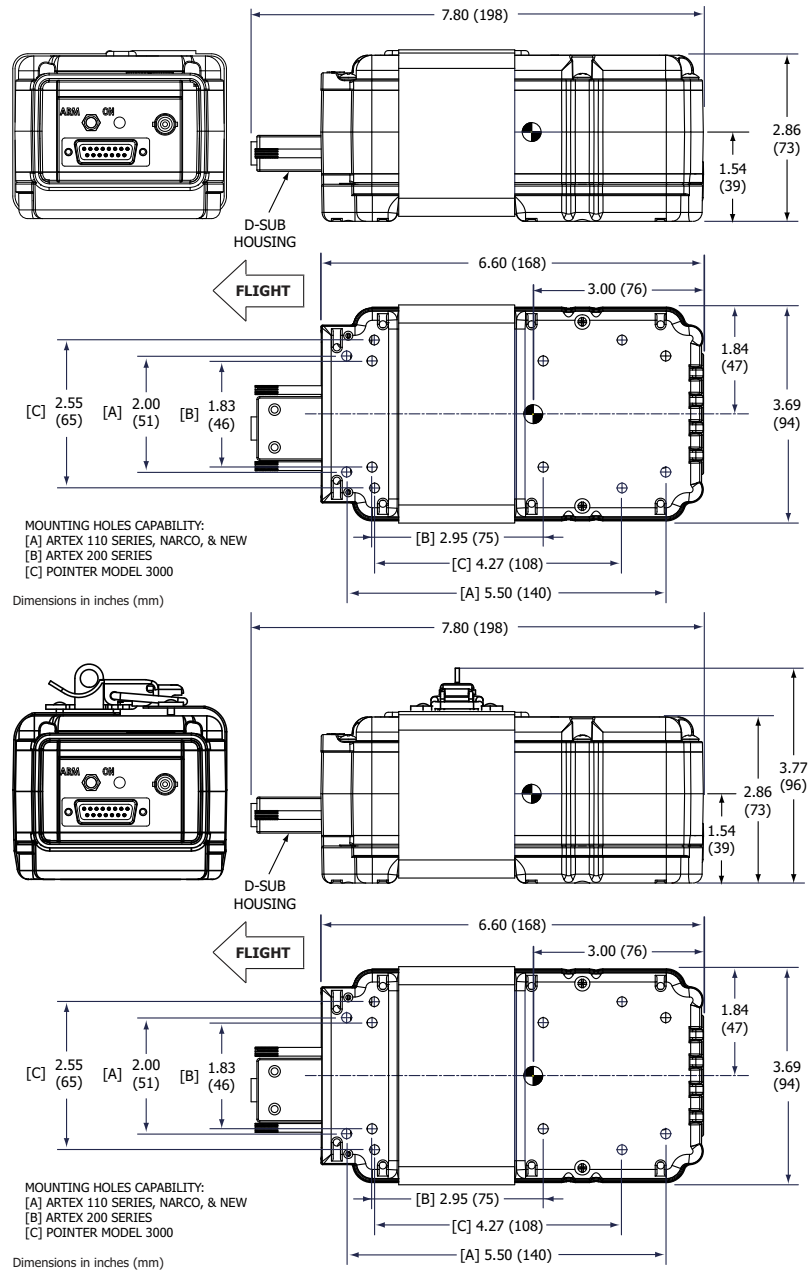
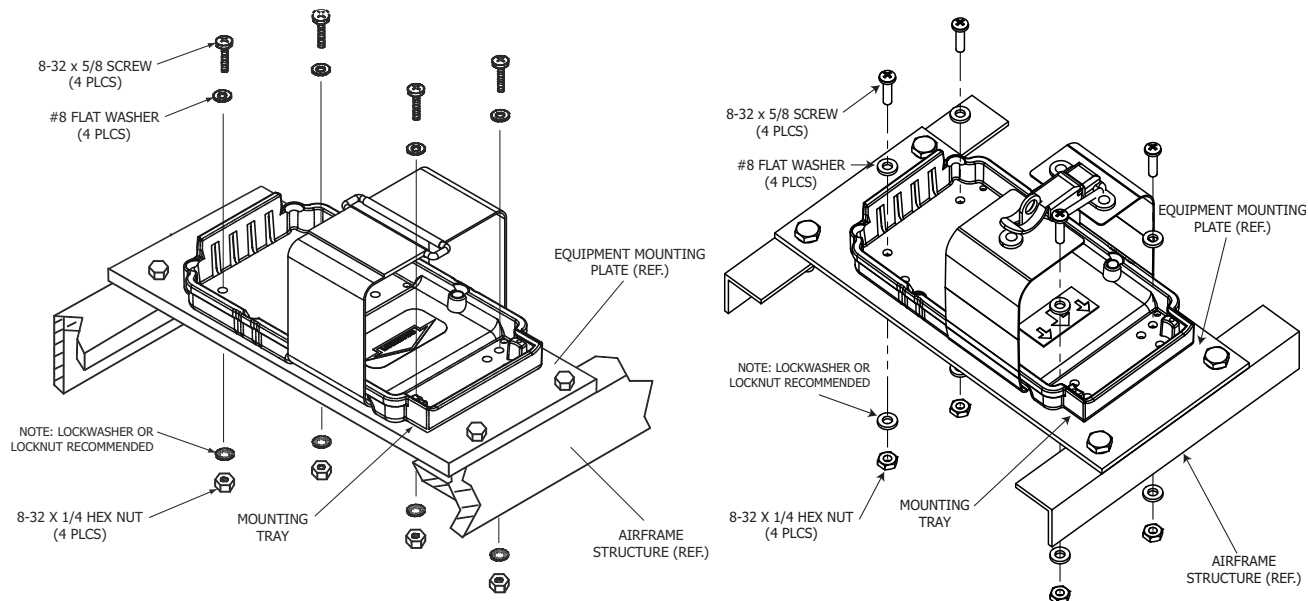

Figure 13 ME406 Series ELT Outline and Dimensions
Figure 14 Typical Mounting Tray Installation
- (1) Select a suitable location for the ELT mounting tray. See Figure 13 ME406 Series ELT Outline and Dimensions. Refer to these dimensions when determining mounting location.
- (1) See Figure 14 Typical Mounting Tray Installation.
- (4) Mark the four holes needed for mounting the tray, using the tray as a pattern. The hole pattern is also illustrated in Figure 13 ME406 Series ELT Outline and Dimensions on page 51.
- (5) Drill the four mounting holes with a #19 or 4.25 mm drill.
- (6) Install the mounting tray with the hardware supplied in the installation kit (455-7423), as shown in Figure 14 Typical Mounting Tray Installation on page 52.